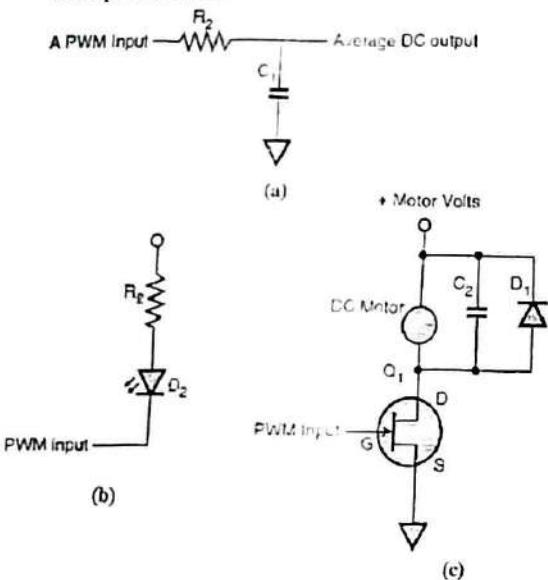

Fig. 8.7.1 : Use of PWM output
- A RC circuit provides filtering and gives the average DC voltage proportional to the count as shown in Fig. 8.7.1(a).
- The Fig. 8.7.1(b) shows how it can be used to turn on a LED and then to control its intensity by varying the voltage (inversely proportional) across it. The Fig. 8.7.1(c) shows how it can be used to turn on a DC motor and then to control its speed by varying the voltage across it.